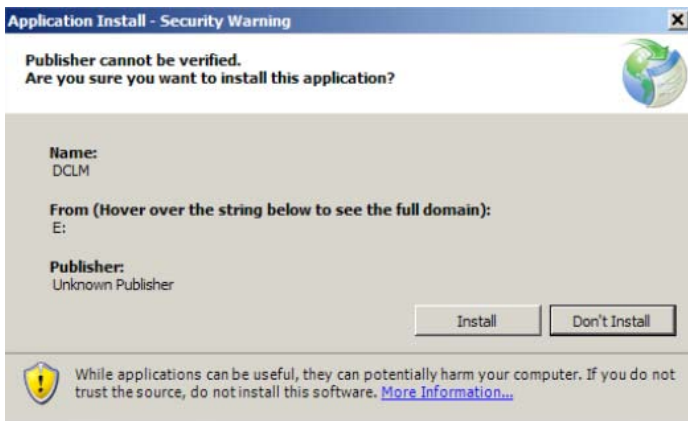

Figure 2
- If you have the necessary files installed the DCLM install program will run as shown in Figure 2.